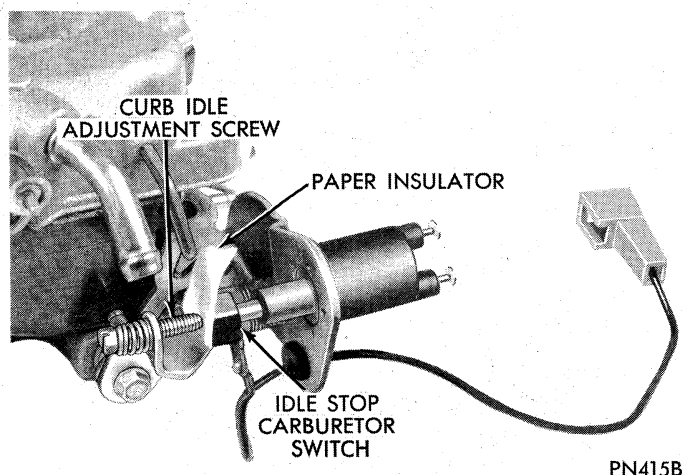

Fig. 23—Preparing for Vacuum Transducer Test
(2) Place a thin insulator (piece of paper) (Fig. 23) between carb switch and curb idle adjustment screw. If curb idle adjustment screw is not touching carb switch make sure fast idle cam is not on or is binding, linkage is not binding, or throttle stop screw is not over adjusted. Adjust timing light so basic timing signal is seen at the timing plate. Let engine run at least 9 minutes and make sure there is a minimum of 16 inches of vacuum at transducer. The meter on the timing light should show additional amount of advance as indicated under specifications. If advance is not within specifications replace "Spark Control Computer."